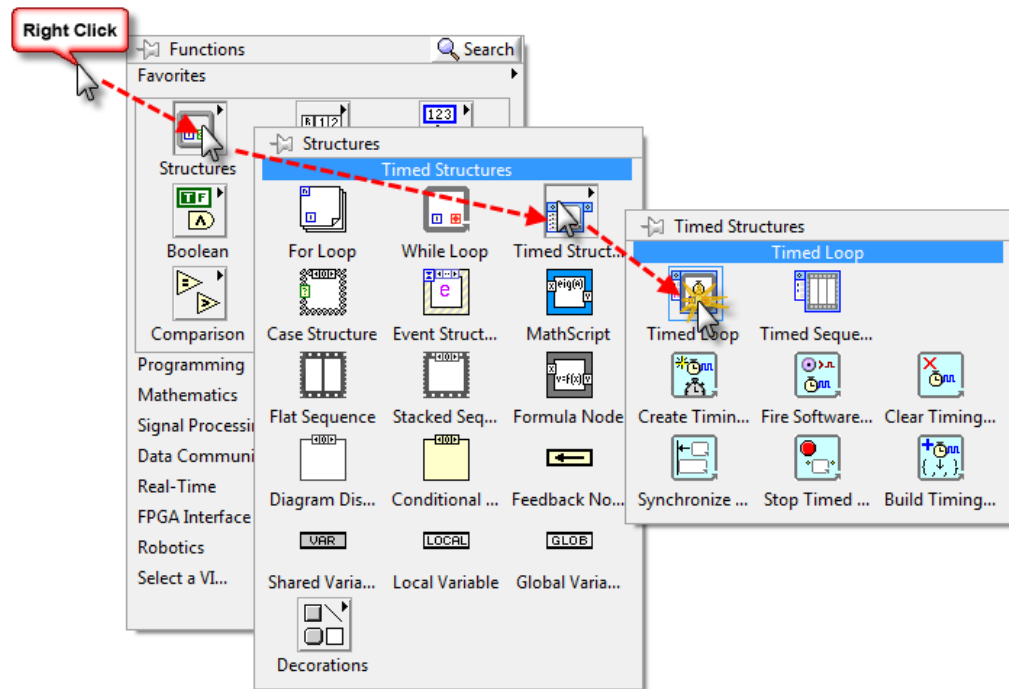

Figure 3.Maneuvering the Function Palette [1]
- a. Right click anywhere on the Block Diagram and go into the palettes by hovering over the palette that you wish to expand. To get the Timed Loop go into Structures>>Timed Structures palette. Figure 3 shows the path you need to take.